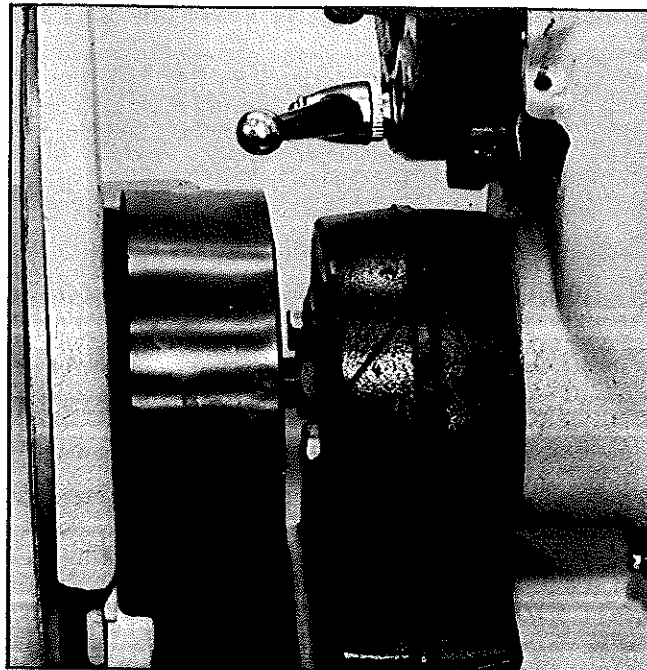

Fig. 17
1. Loosen two bolts (A) Fig. 17, move the sanding arm to the desired position, and lock the two bolts. CAUTION: THE SANDING ARM SHOULD NEVER BE REPOSITIONED WHILE THE MACHINE IS RUNNING.